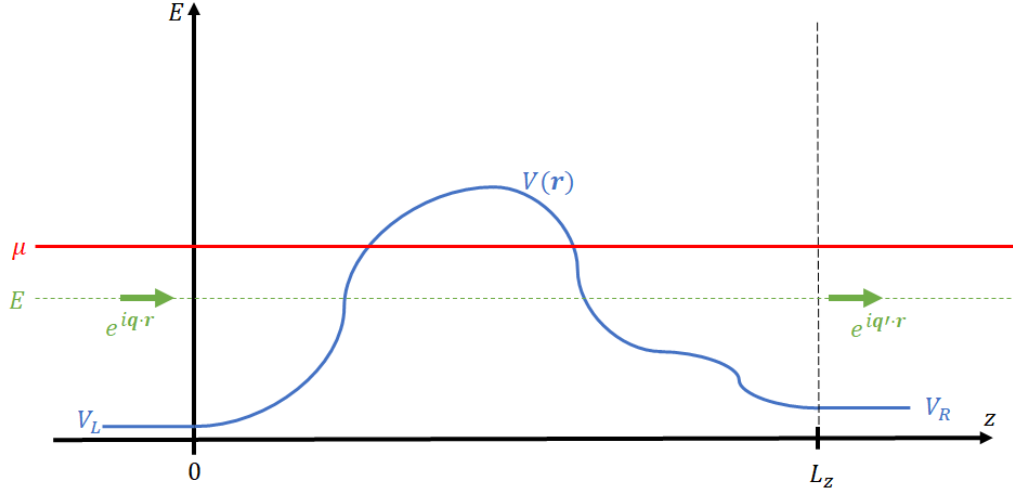

Figure 1: Schematic profile of the physical system
As shown in Figure 1, the physical system we're dealing with is the scattering region between two reservoir, where the reservoir is assumed to have flat potential with the value being V_L (V_L) and V_R (V_R) respectively, so that at the boundary can be matched by assuming there's only plane wave in the reservoir. As for the scattering region: $0 \leq z \leq L_z$ (L_Z), the potential is given by $V(\mathbf{r})$ (data in POTENTIAL file). In most case, one should make sure that $V(x, y, 0) = V_L$ and $V(x, y, L_z) = V_R$ so that the potential profile of the system do not have abrupt change at the boundary. Also, μ (MU) represent the Fermi-energy level relative to the potential profile.